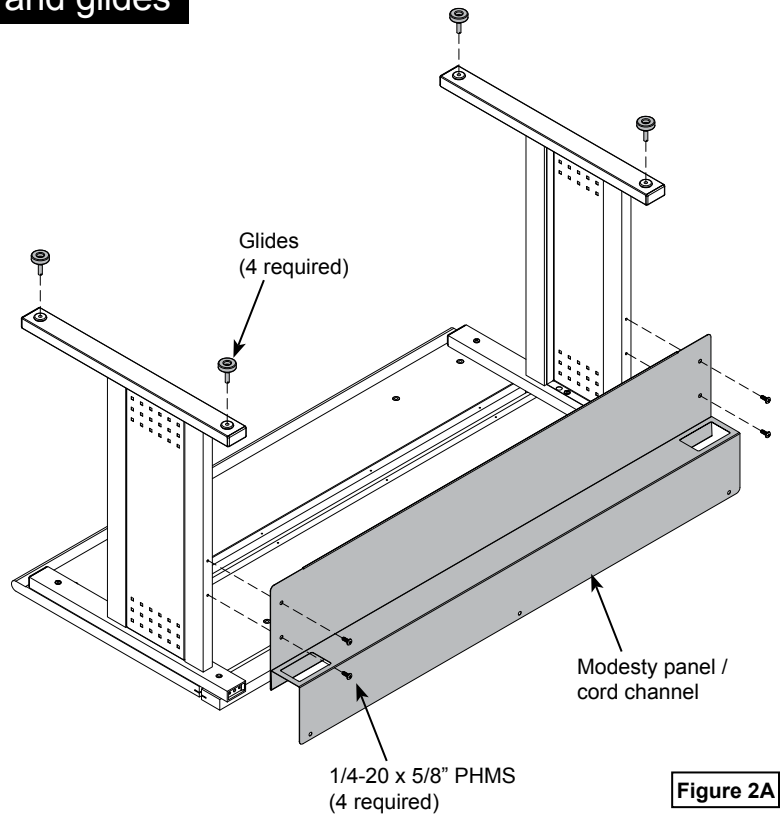

Figure 2A
1. Orient the modesty panel/cord channel as shown and attach to the legs with (4) 1/4-20 x 5/8" PHM screws. **Figure 2A.**